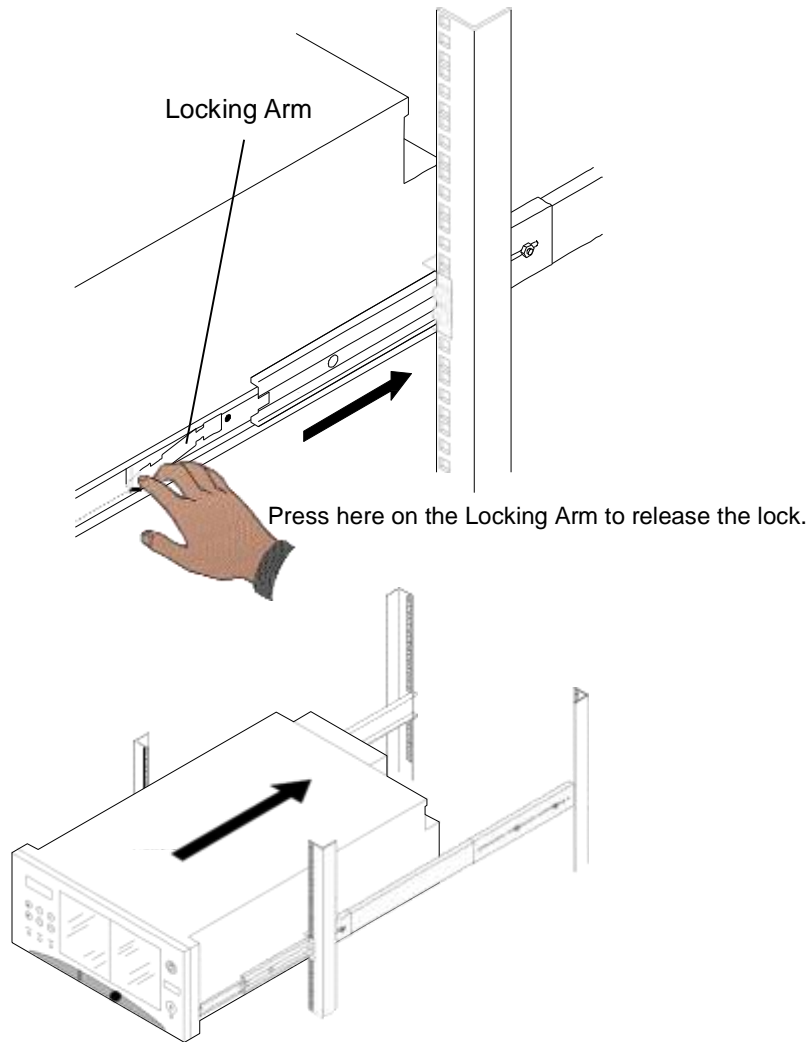

Figure 5-14 Detail of Locking Arm When Installing Library
4. Press the locking arms on both slide assemblies to release the locks, and then slide the library all the way into the rack. Refer to Figure 5-14.